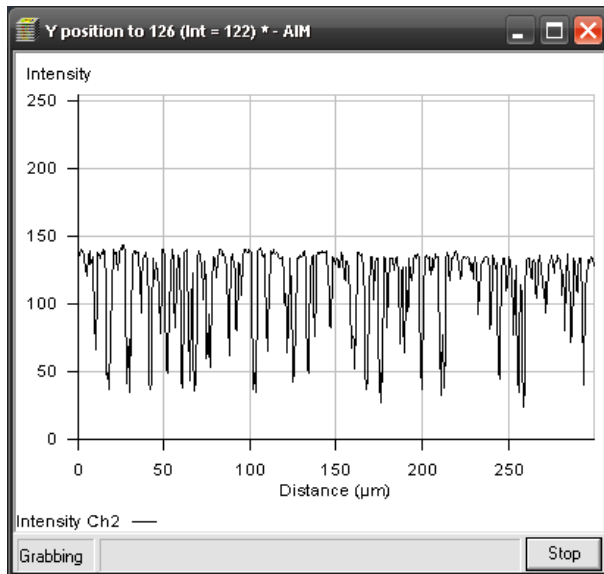

Fig. 443 Pinhole adjustment scan window
- Pinhole adjustment will then run automatically and the Scan window will appear (see Fig. 443). The adjusting procedure takes approx. 3 min.